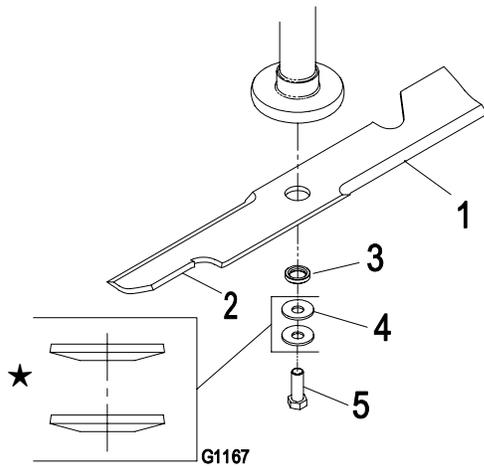

Figure 38
2. With the wrench still on the blade bolt, hold the blade spindle stationary and using a rag or thickly padded glove, try to rotate the blade. If the blade rotates relative to the spindle guard without further tightening the blade bolt, the two spring disk washers have been flattened or damaged and must be replaced (Figure 38). Refer to Removing and Installing the Blades.
3. Once the blade has been removed, inspect the two spring disk washers. If the washers appeared to be damaged (the washer surface has been marred) or flattened they must be replaced. (Figure 38).
Hold the blade end using a rag or thickly-padded glove (or place a wrench on the top sheave nut). Remove the blade bolt, two spring disk washers, bushing, and blade from the spindle shaft (Figure 38).
- Install the blade onto the spindle shaft (Figure 38).
- Hold the blade end using a rag or thickly-padded glove (or place a wrench on the top sheave nut). Install the bushing, two spring disk washers (cupped side toward the blade) and blade bolt (Figure 38).